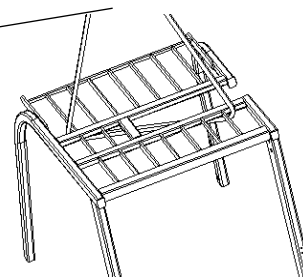

Figure 2-28
- (2) Figure 2-28 shows how to lift the top shelf